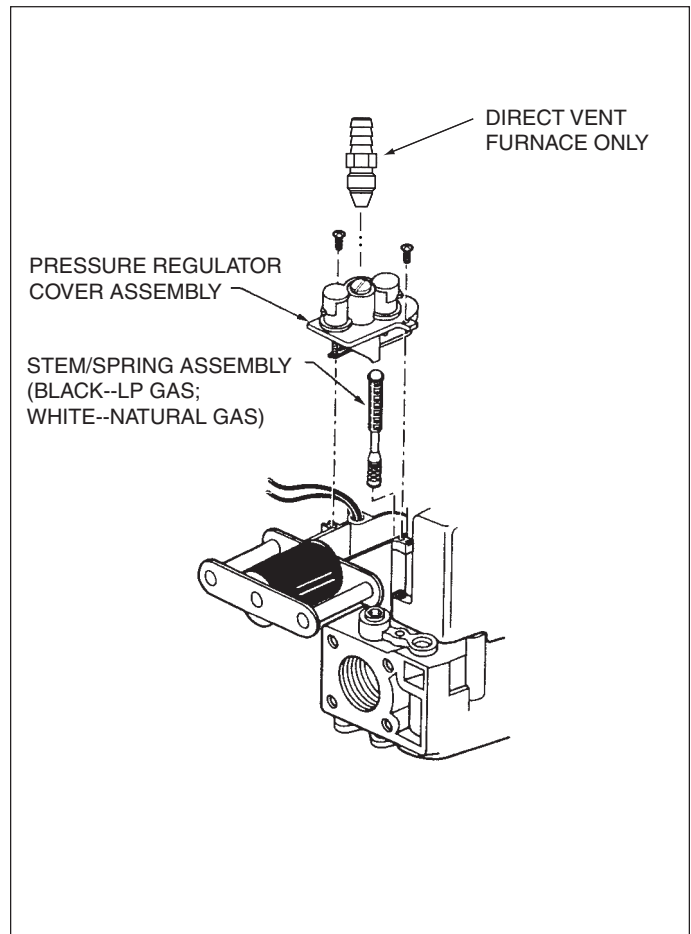

Figure 3. Installation of the Conversion Kit
3. Remove the pressure regulator cover assembly as shown in Figure 3.
2. With a 3/16 inch Allen wrench, remove the INLET pressure tap plug located on the INLET side of the gas valve, refer to Figure 3 for more details.